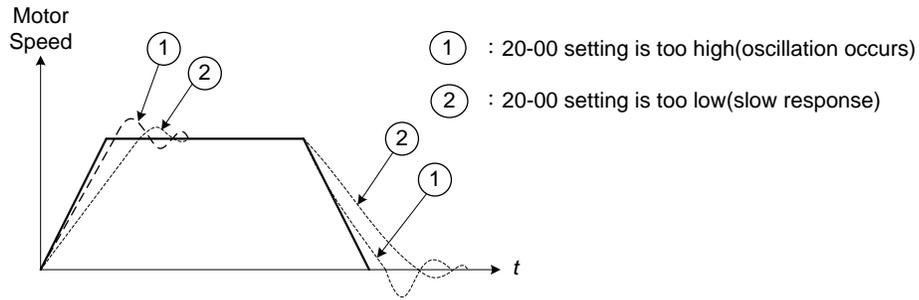

Figure 4.4.114 System response of ASR proportion gain
2. Integral control enables the motor speed to reach its target speed as soon as possible, but it may result in over or undershoot, as shown in Figure 4.4.114 & 4.4.115.
Use parameter 20-00 and 20-02 to adjust the speed response for each cycle. Tuning the settings of 20-00, 20-02 can increase system response, but may cause system instability. See figure 4.4.114.